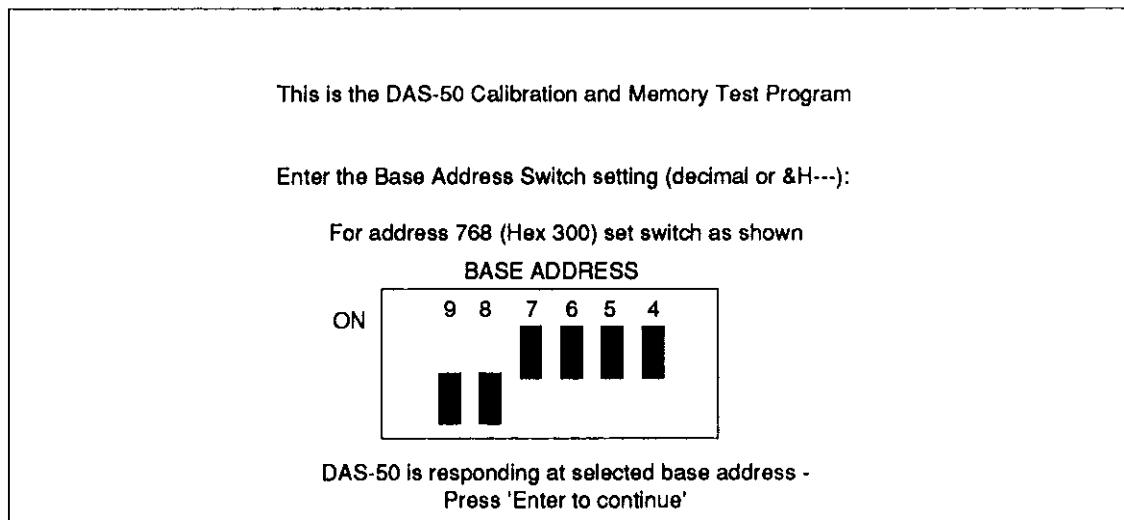

Figure 7-1. Calibration Start-Up Screen
5. Once the board has been installed at the specified address, and **Enter** has been pressed, the screen shown in Figure 7-1 is displayed. Press **1** or **2** for the appropriate Diagnostic procedure. Note that you can exit from the routine at any point by pressing **Esc**.